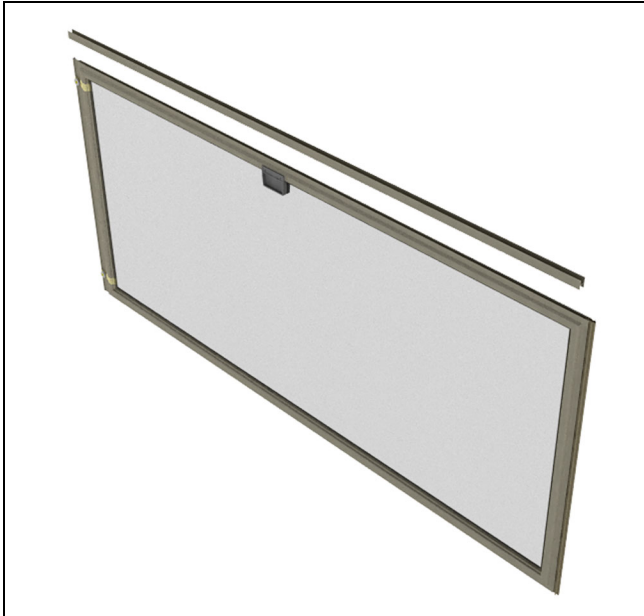

Figure 4
1. Turn the secondary screen panel so the stile with the handle is up. See Figure 4.